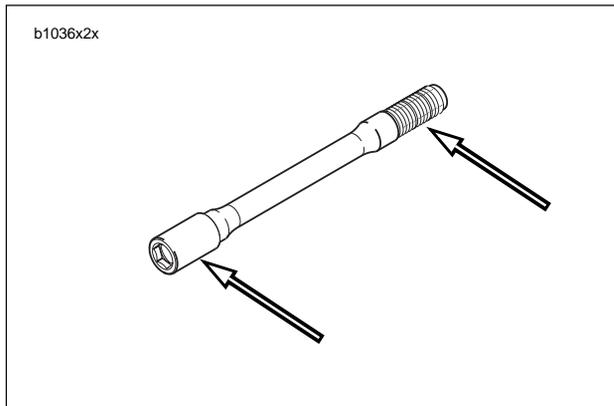

Figure 6-98. Anti-Seize Lubricant Location
14. See Figure 6-98. Coat the axle with ANTI-SEIZE LUBRICANT.